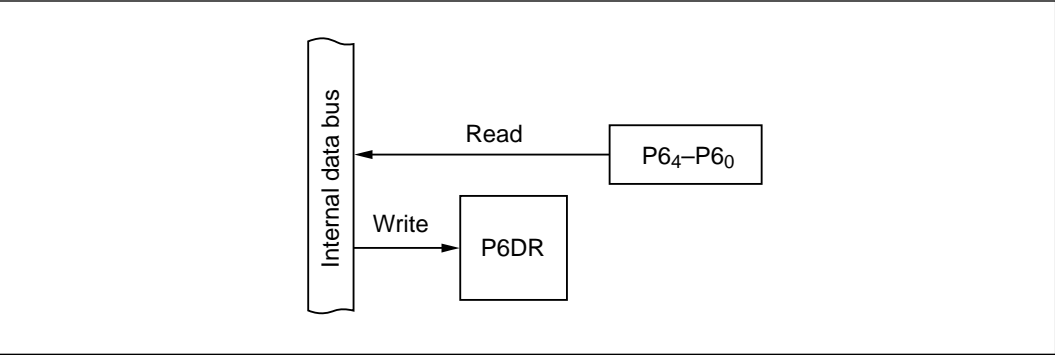

Figure 9-36 Input Port (Modes 1 to 7)
(1) **Input Port (Modes 1 to 7):** Figure 9-36 shows a block diagram illustrating the general-purpose input function. Table 9-27 indicates register read/write data. Values written in the port 6 data register (P6DR) have no effect on general-purpose input lines. When read, P6DR returns the value at the pin.